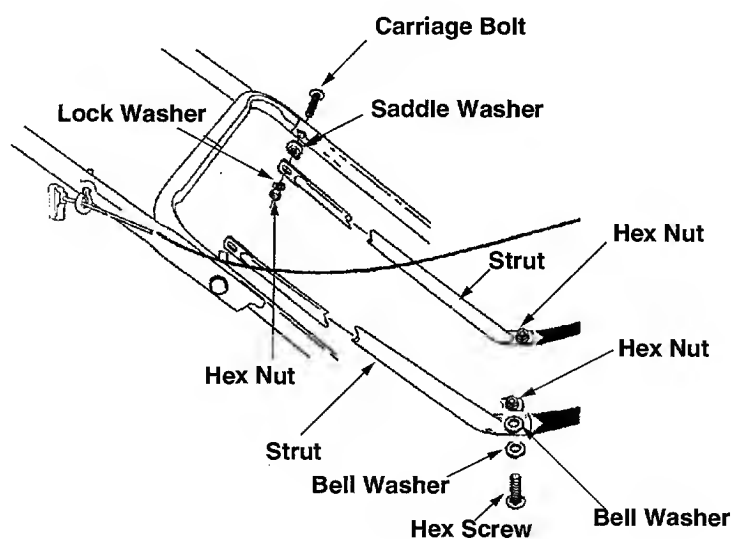

FIGURE 8
- Repeat on other side. See Figure 8.